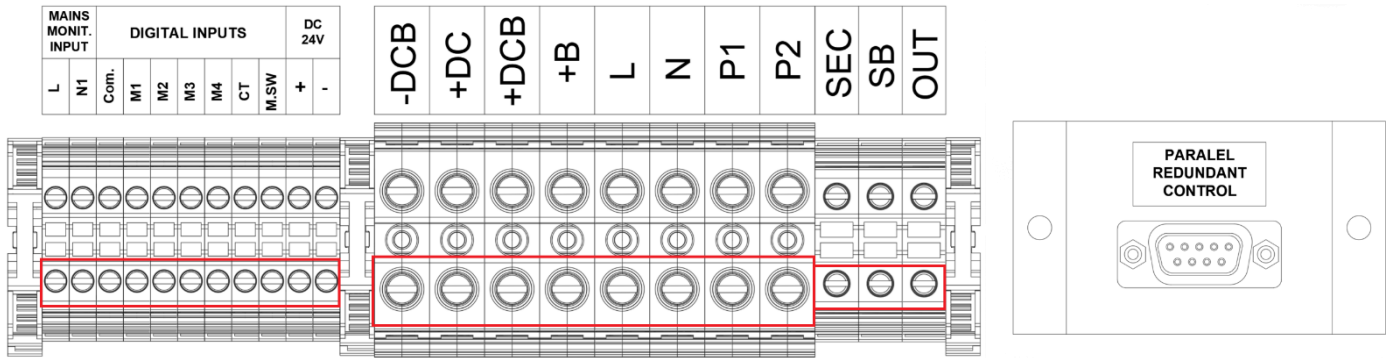

Figure 1 Connection terminal of the UPS-11 Module
Figure 1 shows the connection terminals of the UPS-11 module.
- ⚠ The areas marked with the red rectangles in Figure 1 should be used for wiring. Except from these areas, no cables should be disconnected.